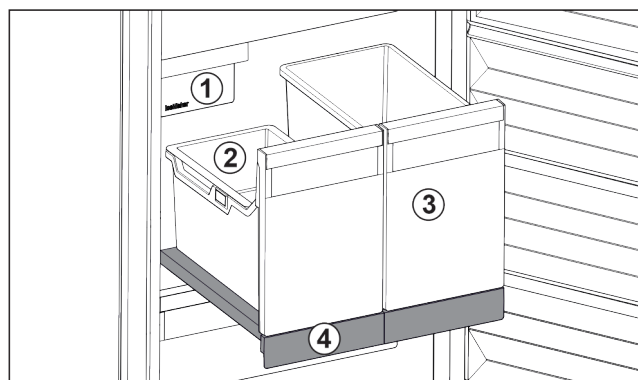

Fig. 79 Pull-out board with IceTower
There are two high (IceTower) containers on the pull-out board. Ice cubes from the IceMaker are collected and stored in the Fig. 79 (2) container. The container Fig. 79 (3) is suitable for storing tall foodstuffs or beverages such as pizzas or alcoholic drinks.